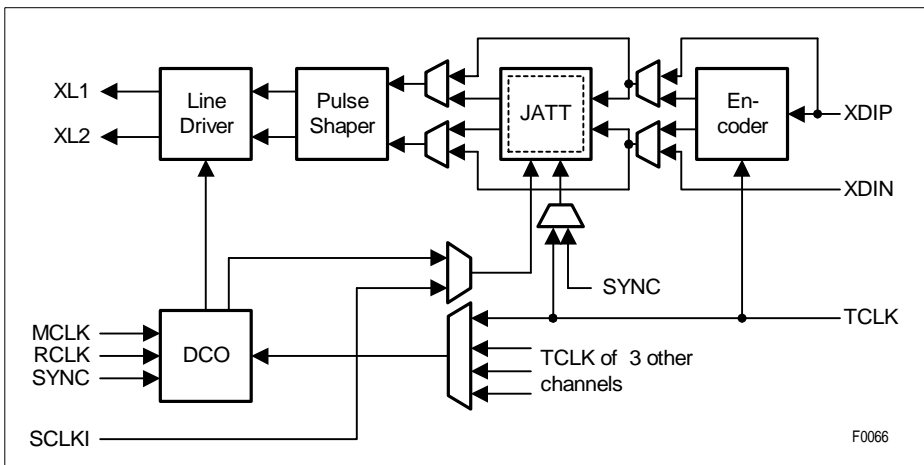

Figure 14 Transmit Clock System
1) The DCO can be used either in receive or transmit direction (see Figure 10 and Figure 14)